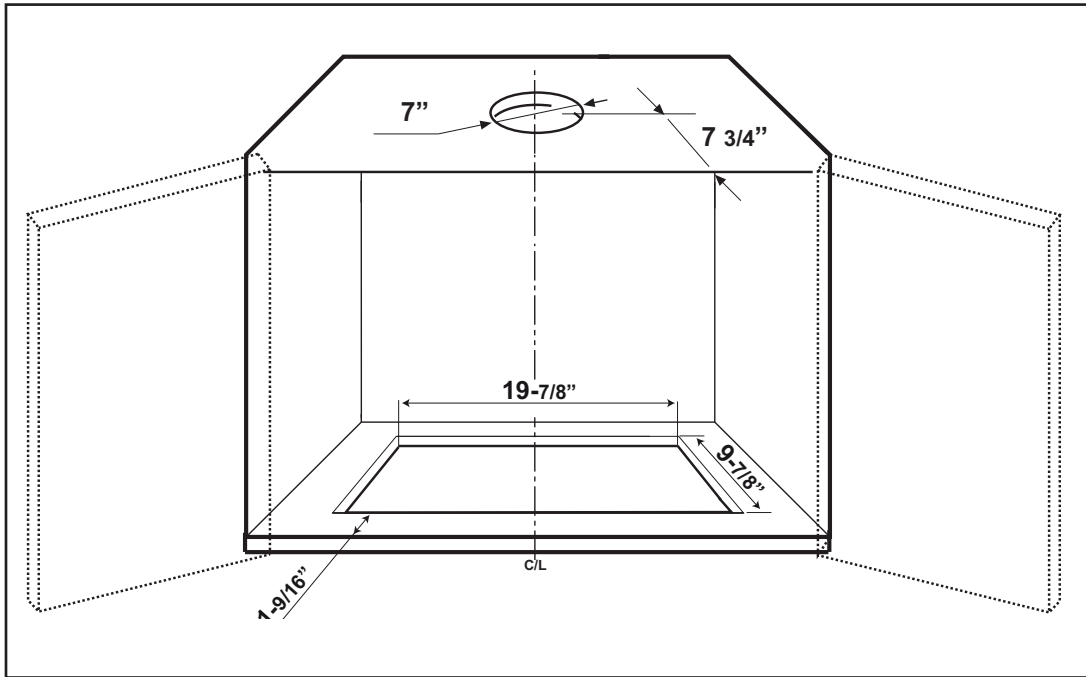
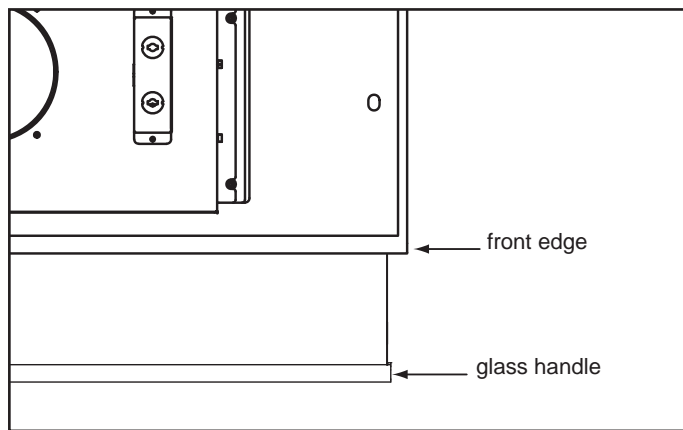
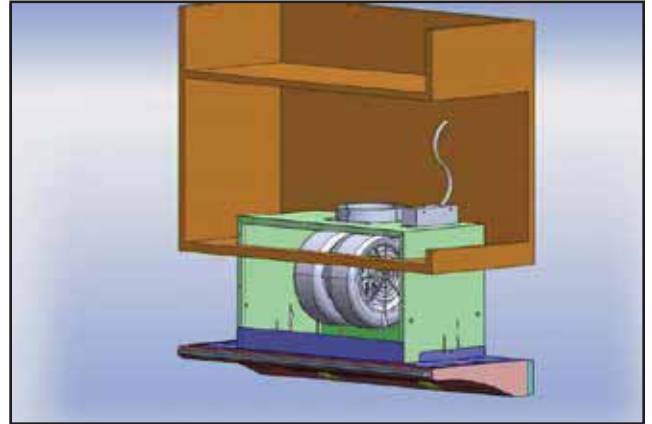

Fig.1
Fig.2
Fig.4
3. Follow the dimensions in Fig.1 and cut-out the bottom of your cabinet to create an opening for the hood to fit through. If you have a frameless cabinet begin the 1-9/16" measurement (referenced in Fig.1) from front of the cabinet door. This way the front edge of the hood will be flush with the cabinet doors when closed, see Fig.2.
- 3) Open cabinet doors. Lift range hood and slide it through the opening located in the bottom of the cabinet, Fig.4. Make sure opening matches the dimensions on page 9, Fig.1.